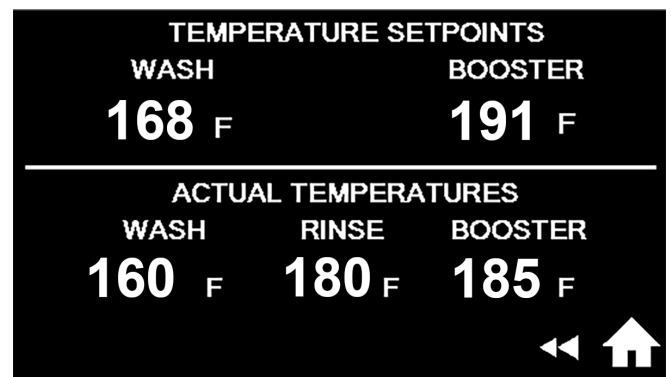

Fig. 67b- Temperature Setpoints menu
3. Actual Temperatures appear below and indicate the current temperatures during a wash and rinse cycle. These are not adjustable, (Fig. 67b).